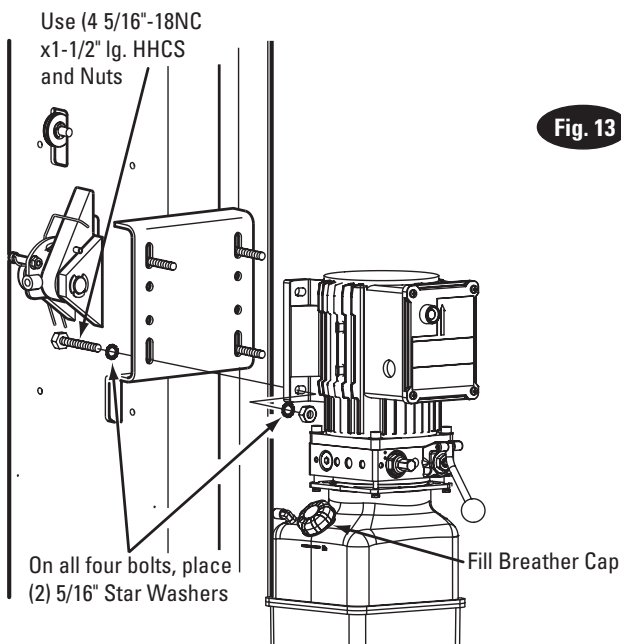

Fig. 13
- 12. Power Unit:** First install a star washer onto all of the (4) 5/16"-18NC x 1-1/2" HHCS. This is very important for grounding. Put the (4) 5/16"-18NC x 1-1/2" HHCS thru holes in power unit bracket, Fig. 13. Mount unit with motor up to column bracket and install (4) 5/16" star washers and 5/16" Nuts. Install and hand tighten fitting to pump until O-ring is seated. Continue to tighten the locknut until the nut and washer bottom out against the pump manifold.